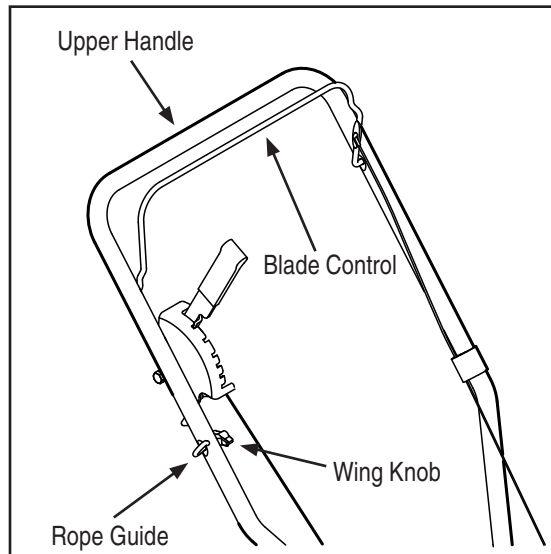

Figure 1
2. Loosen, but do NOT remove, the wing knob which secures the rope guide to the upper handle. See Figure 1.
NOTE: The starter rope will not pull out of the engine unless the blade control (refer to Figure 1) is depressed against the upper handle.